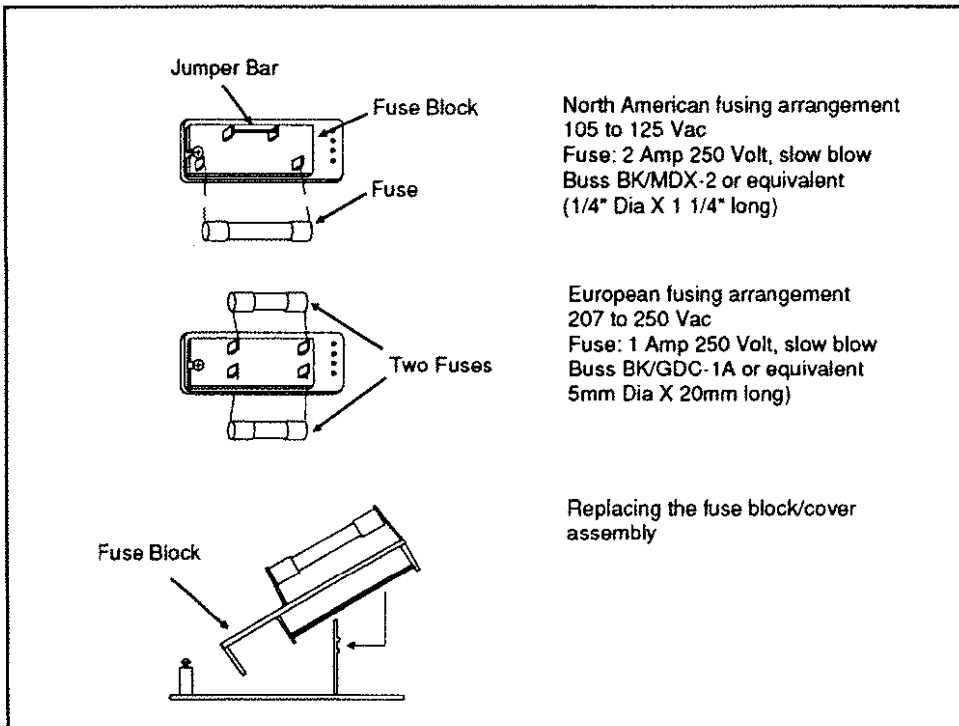

Figure 2-4. Changing the Fusing Arrangement
13. Flip the fuse block over and reinstall it to the cover. See Figure 2-4.